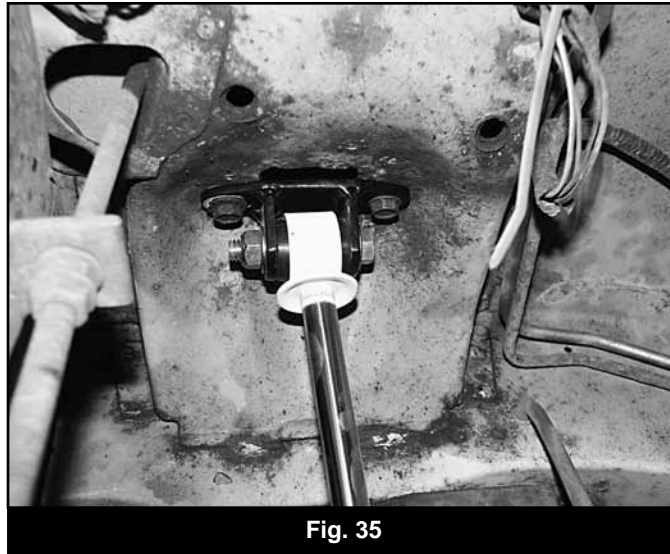

Fig. 35
19. Install the provided upper shock bar pin eliminator brackets (01350) with the original upper shock mounting hardware (Fig 35). Torque to 20 ft-lbs